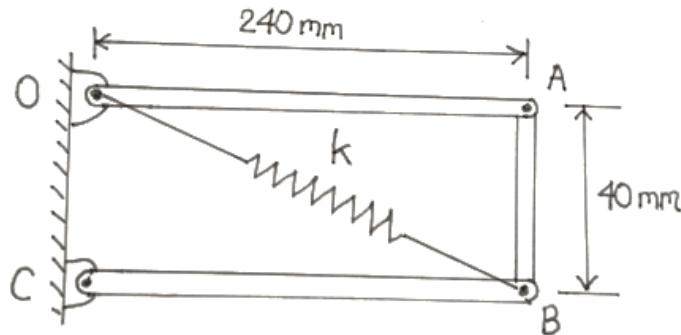

Figure 1
*[Sila pastikan bahawa kertas peperiksaan ini mengandungi SEBELAS (11) muka surat yang bercetak sebelum anda memulakan peperiksaan ini.]*
**Instructions:** Answer ALL **FOUR (4)** questions.
**Arahan:** Jawab **SEMUA EMPAT (4) soalan]**
1. Figure 1 shows a basic structure used in the Wilmington Robotic Exoskeleton. The structure consists of links OA, AB and BC where the links are pin jointed. Point O and C are anchored to the wheelchair. To compensate the weight  $W=3$  kg at point A, a spring of stiffness  $k$  N/mm with unstretched length of 200 mm is used to connect point O and B. The links are considered massless: